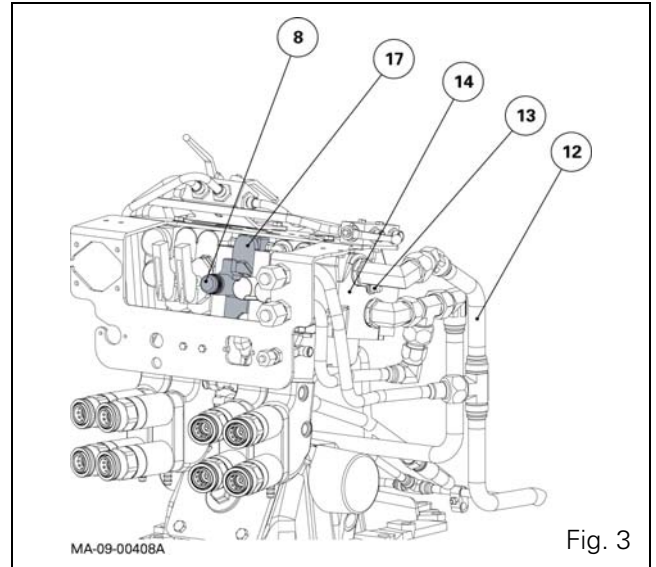
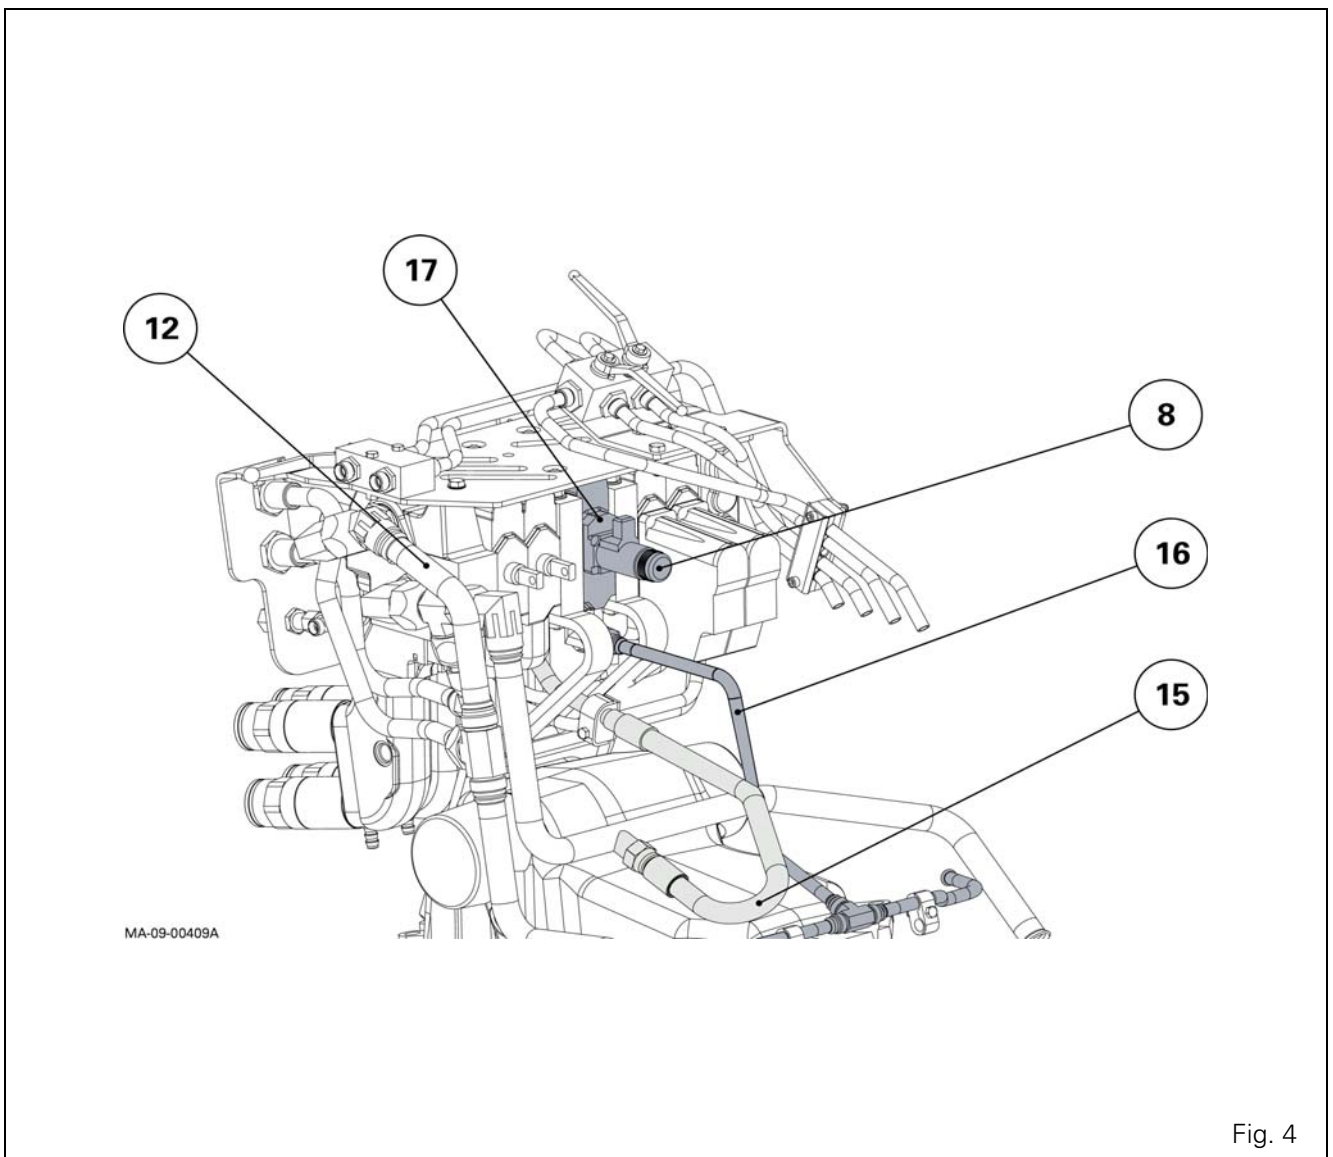

Fig. 3
Fig. 4
On the inlet block (14) (Fig. 3, Fig. 4)
- (12) HP supply from the two-cylinder pump via the priority block(s) (depending on model)
- (13) LS signal to the balance block via the priority block(s)
On the lift control valve (17) (Fig. 3, Fig. 4)
- (15) Rams return pipe or hose to housing
- (16) HP ram supply